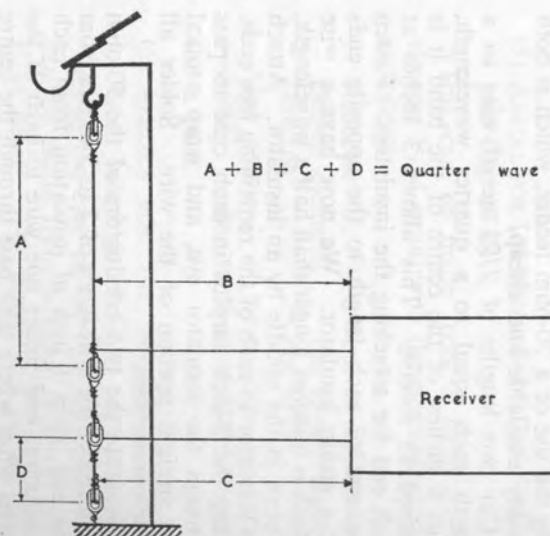

Fig. 18.4 Vertical quarter wave aerial.
(4) VERTICAL QUARTER WAVE AERIAL (see Fig. 18-4)
or in the ground. The maximum length of wire which may be used in this case is determined by the height of the building. One of the most practical ways of using this aerial is to make the sum of the four dimensions shown in Fig. 18-4 equal to half a wavelength of the lowest band it is desired to receive.